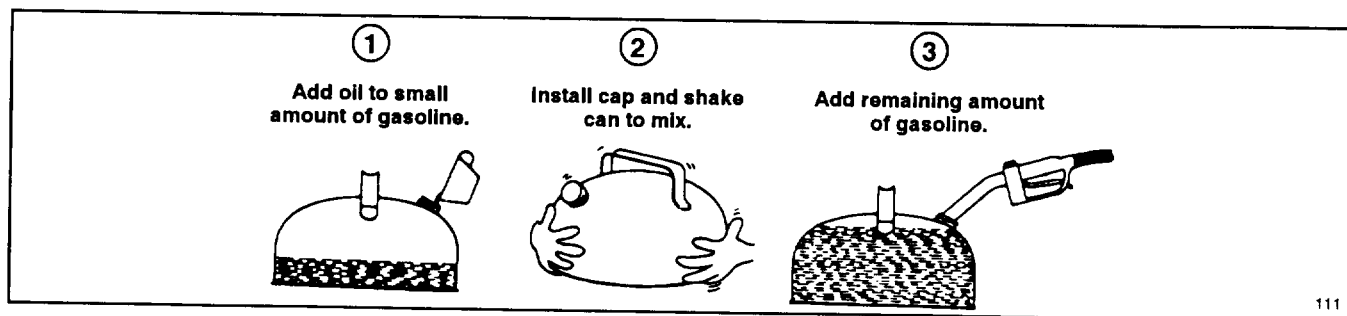

Figure 7
2. **Mixing Gasoline and Oil** (Fig. 7)—Pour correct amount of two-cycle oil into an approved gasoline container and add a half gallon of gasoline. Install cap on gasoline container and shake the container to mix oil and gas thoroughly. Remove cap and add remaining amount of gasoline.